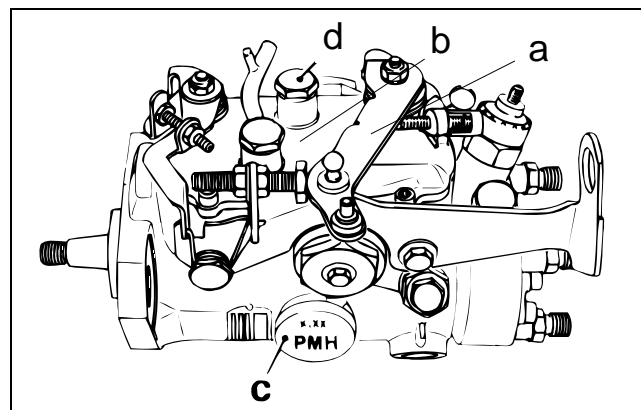

Figure 54
6. Clean the area around the pump timing plug (Fig. 54, Item d). Remove the pump timing plug.